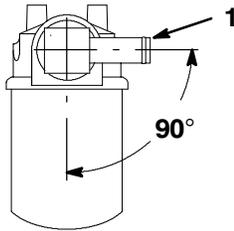

Figure 9
4. Thread the 1-1/16" NPT 90° fitting into the hydraulic filter head and position as shown in figure 9.